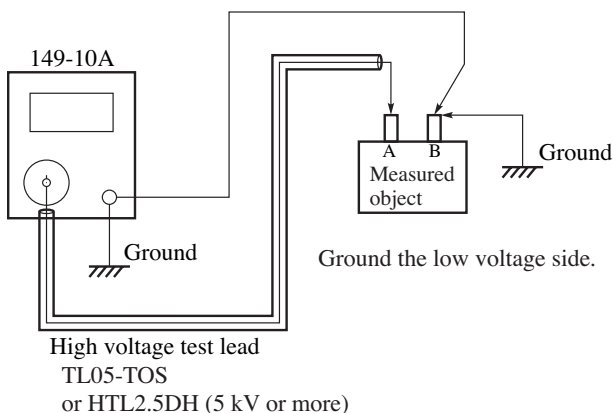

Fig. 3.3 Connection for measuring
7. Check that the 149-10A and measured object are connected as shown in Fig. 3.3.